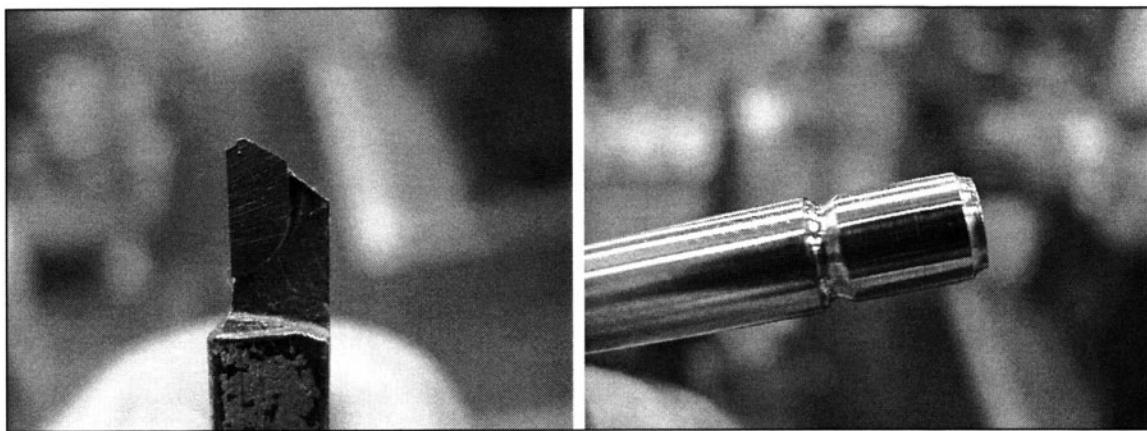

FIGURE 7-13 Diamond files can be used for final shaping of form tools. The small radius form on this lathe tool was filed in with a diamond file.
14. *Use diamond files to create and shape form tools. (See Fig. 7-13)*